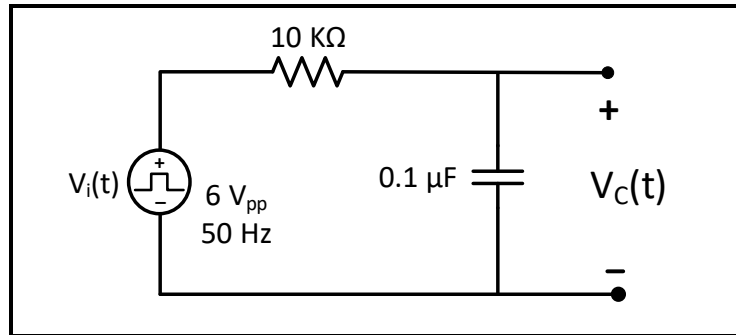

Figure 5.8
For the circuit of Figure 5.8:
- Connect the circuit shown in Figure 5.8, with the function generator set to produce a square wave of: $V_{in} = 6 V_{PP}$, $f = 50 \text{ Hz}$, and DC offset 3 V.